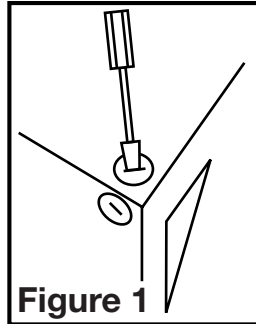

Figure 1
3. Select the most convenient electrical knockout and remove using a straight-blade screw driver and install an approved electrical connector (Figure 1).